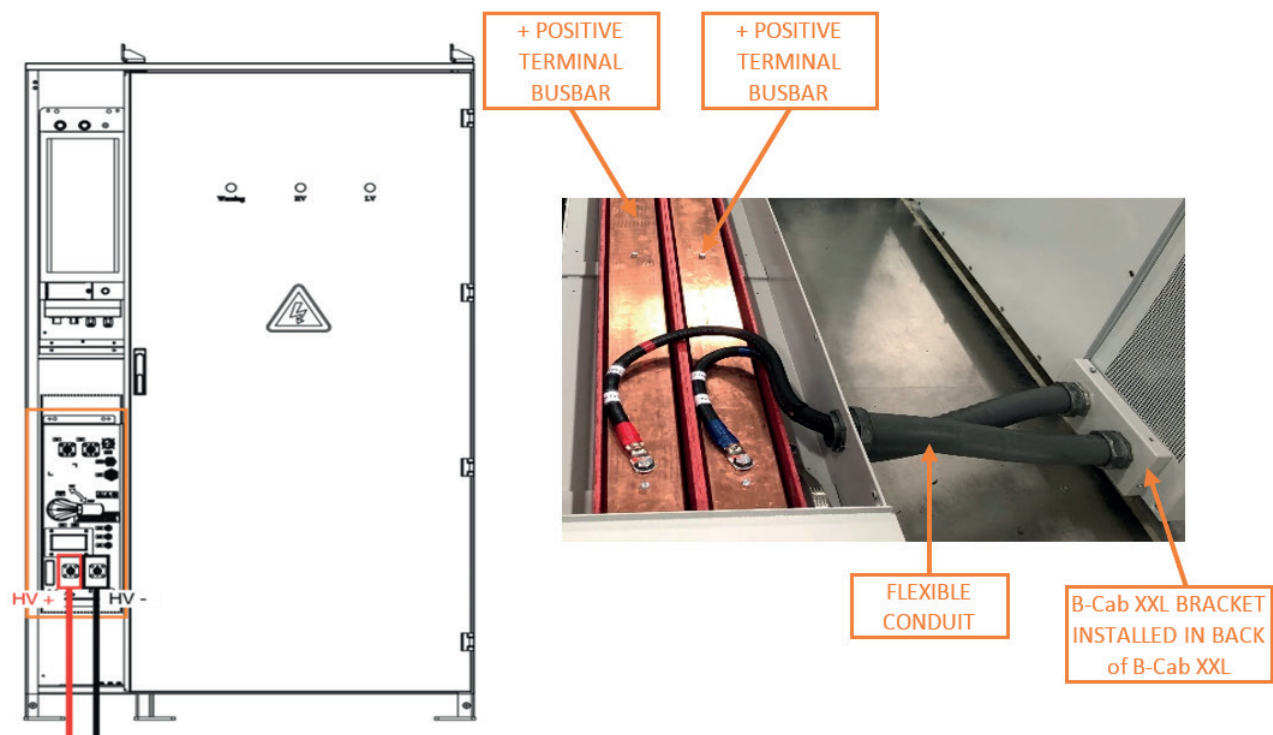

Figure 92. High Voltage DC Connection
- a. Start with one power cable at a time. Standing in front of the battery cabinet with the left side door open as in Figure 92.